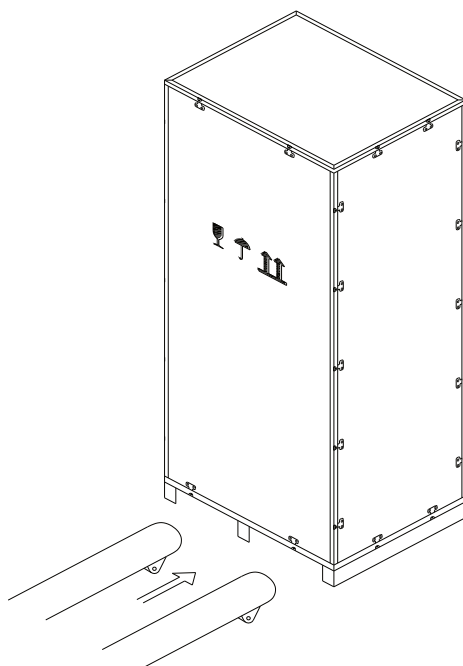

Figure 2-3 Transport to the designated site
- 2) Transport the equipment to the designated site by forklift, as shown in Figure 2-3.